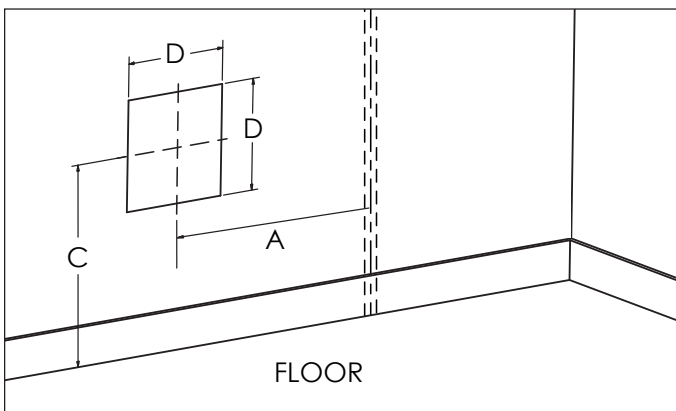

Figure 4
4. Cut the square hole through the wall according to the measurements and positions indicated in figure 4 and 5.